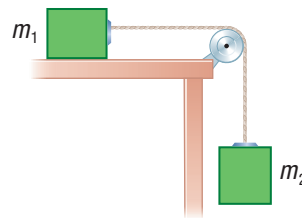

Figure 7
6. Two blocks are connected by a massless string that passes over a frictionless pulley (**Figure 7**). The coefficient of static friction between m_1 and the table is 0.45. The coefficient of kinetic friction is 0.35. Mass m_1 is 45 kg, and m_2 is 12 kg. **K/U T/I**